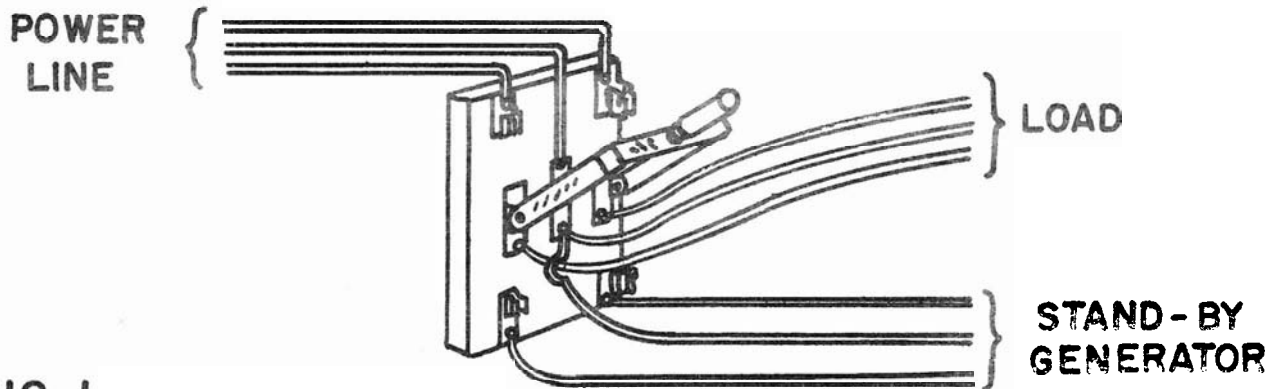
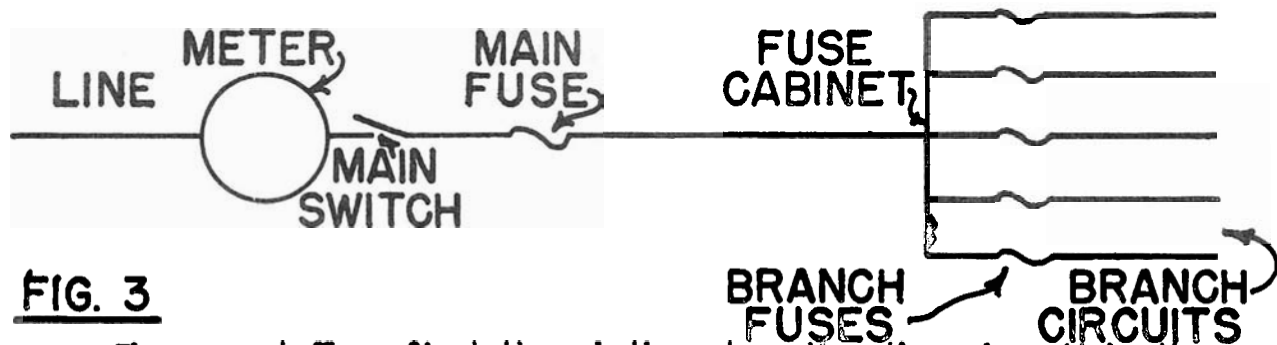

FIG. 1
FIG. 3
- III. The simplest stand-by installation is one in which the load is thrown from the power line to the stand-by generator by means of a manual (hand-operated) switch. The switch used for this purpose is called a "double-throw" switch and is shown in Fig. 1. The load is connected to the center terminals. When the switch is thrown to one position, the load is connected to the power line; when it is thrown to the other position, it is connected to the stand-by generator. If the switch is properly installed, there is no possible way that the plant can ever be connected to the power line - it can be connected to the load only after the load has been disconnected from the power line.
- IV. This involves the use of double-throw switches as already described and as shown in Fig. 1. Let us study a typical installation as it is before any part of the stand-by equipment is installed. This is shown in Fig. 3; for the sake of simplicity, only one wire is shown.